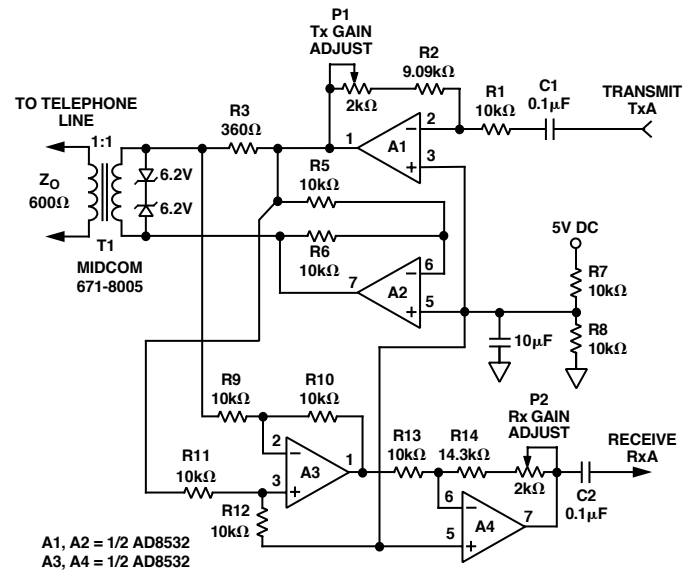

Figure 42. A Single-Supply Direct Access Arrangement for Modems
Figure 42 illustrates a 5 V only transmit/receive telephone line interface for 600 Ω transmission systems. It allows full duplex transmission of signals on a transformer coupled 600 Ω line in a differential manner. Amplifier A1 provides gain that can be adjusted to meet the modem output drive requirements. Both A1 and A2 are configured to apply the largest possible signal on a single supply to the transformer. Because of the high output current drive and low dropout voltage of the AD8531/AD8532/AD8534s, the largest signal available on a single 5 V supply is approximately 4.5 V p-p into a 600 Ω transmission system. Amplifier A3 is configured as a difference amplifier for two reasons: (1) It prevents the transmit signal from interfering with the receive signal and (2) it extracts the receive signal from the transmission line for amplification by A4. A4's gain can be adjusted in the same manner as A1's to meet the modem's input signal requirements. Standard resistor values permit the use of SIP (Single In-line Package) format resistor arrays.